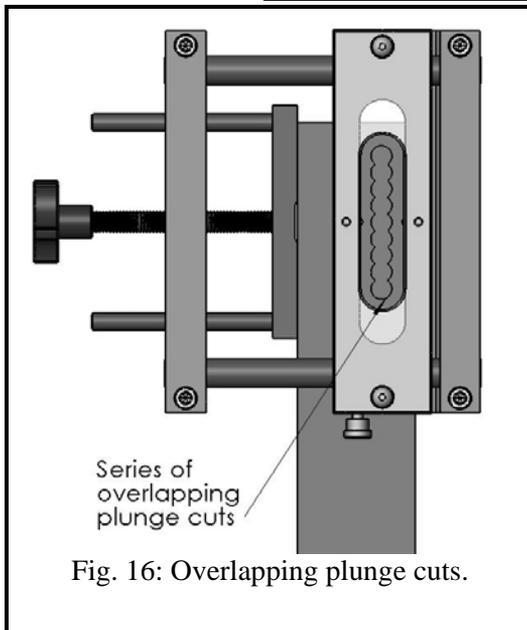

Fig. 16: Overlapping plunge cuts.
Step 5. Proceed to rout the mortise. Referring to Fig. 16, one technique for routing the mortise is to make a series of overlapping plunges to full depth along the length of the template. Then make a finishing cut by moving your plunge router around the template. This technique is fast and produces a mortise with an excellent surface